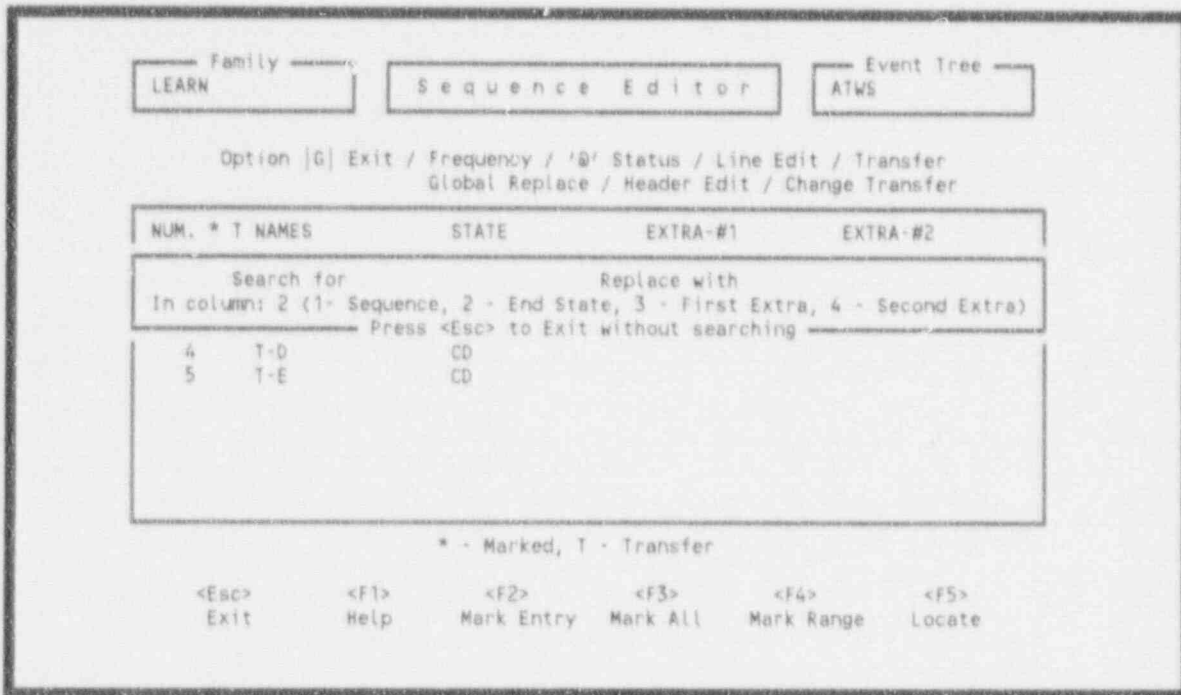

Figure 142. Global replacement using the sequence editor.
7.3.4.6 Global Replace. This option allows you to replace a specified string at every occurrence with another string. To invoke this option, type a <G> in the option field and press <Enter>. Figure 142 will be displayed. First, you enter the string for which to search. Press the <Tab> key once and enter the replacement string. Press the <Tab> key once more, and enter the column (1, 2, 3, or 4) on which to perform the search. If the search string is found, all occurrences of the search string will be replaced by the string specified in the replacement string. If the string is not found, the message **No such string found** will be displayed at the bottom of the screen and you will be returned to the previous screen.